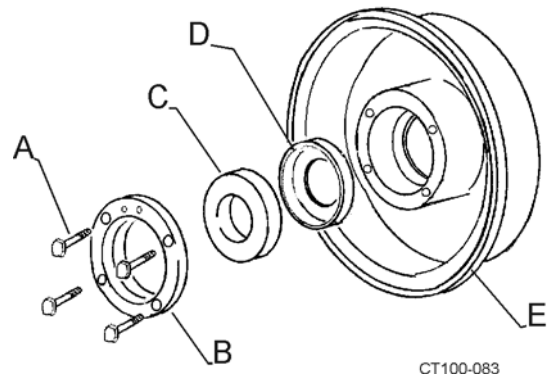

Figure 28 - Removing Stationary Seal
10. Remove four 1/4" hex bolts and stationary seat retainer ring. (Figure 28, items A and B).
11. Pull the stationary seal and L-gasket out of backplate. (Figure 28, items C and D).